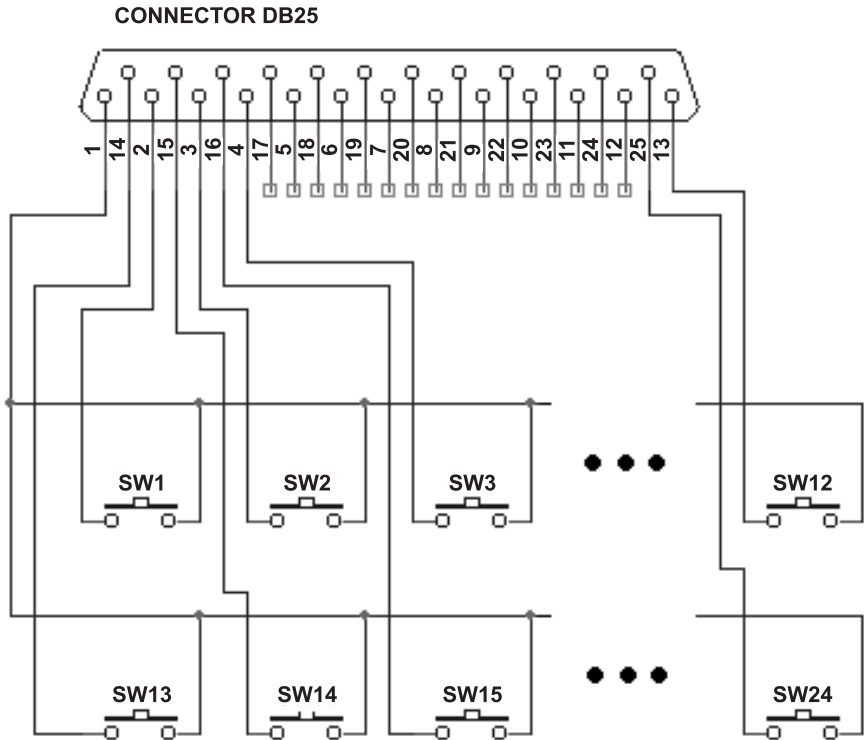

Figure 5: DB25 PINOUT
2. Connect the “*To Switch Assembly*” DB25F port on the **VS-1xl** to the “*To VS-1xl*” DB25F port on the **VS-1PxL** Control Panel, using a DB 25 flat connector cable (see Figure 5 for the DB25 PINOUT).
Figure 5 illustrates the DB25 “To Switch Assembly” connector PINOUT: